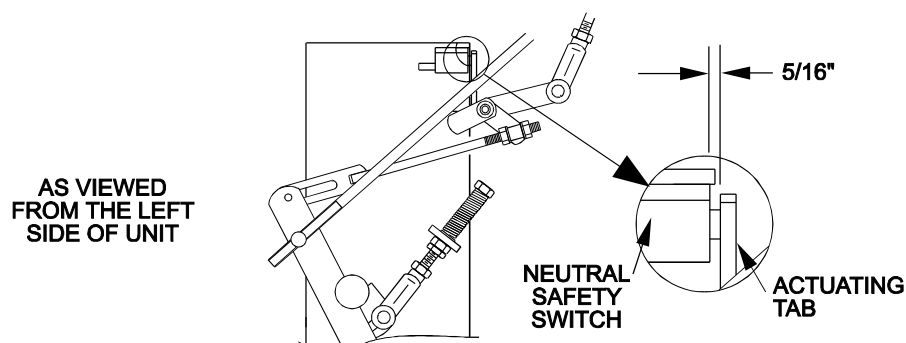

FIG. 14
2. Pull the speed control lever back to neutral. Check that the neutral safety switch actuating tab has depressed the plunger of the switch so that there is about 5/16" between the tab and the switch. See fig. 14. If necessary, move the switch fore and aft.